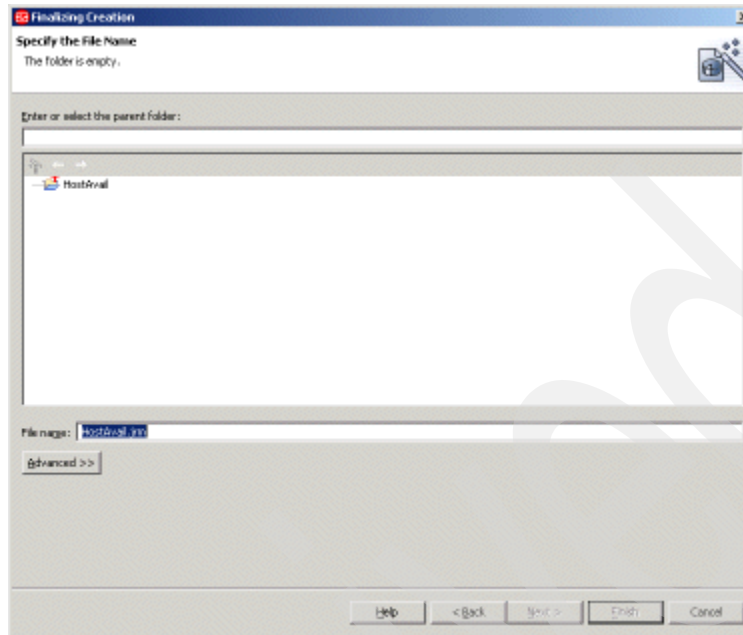

Figure 9-49 Finalizing Creation: Specify the File Name window
20. Select **Next**. The Finalizing Creation: Specify the File Name window displays as shown in Figure 9-49 on page 470.